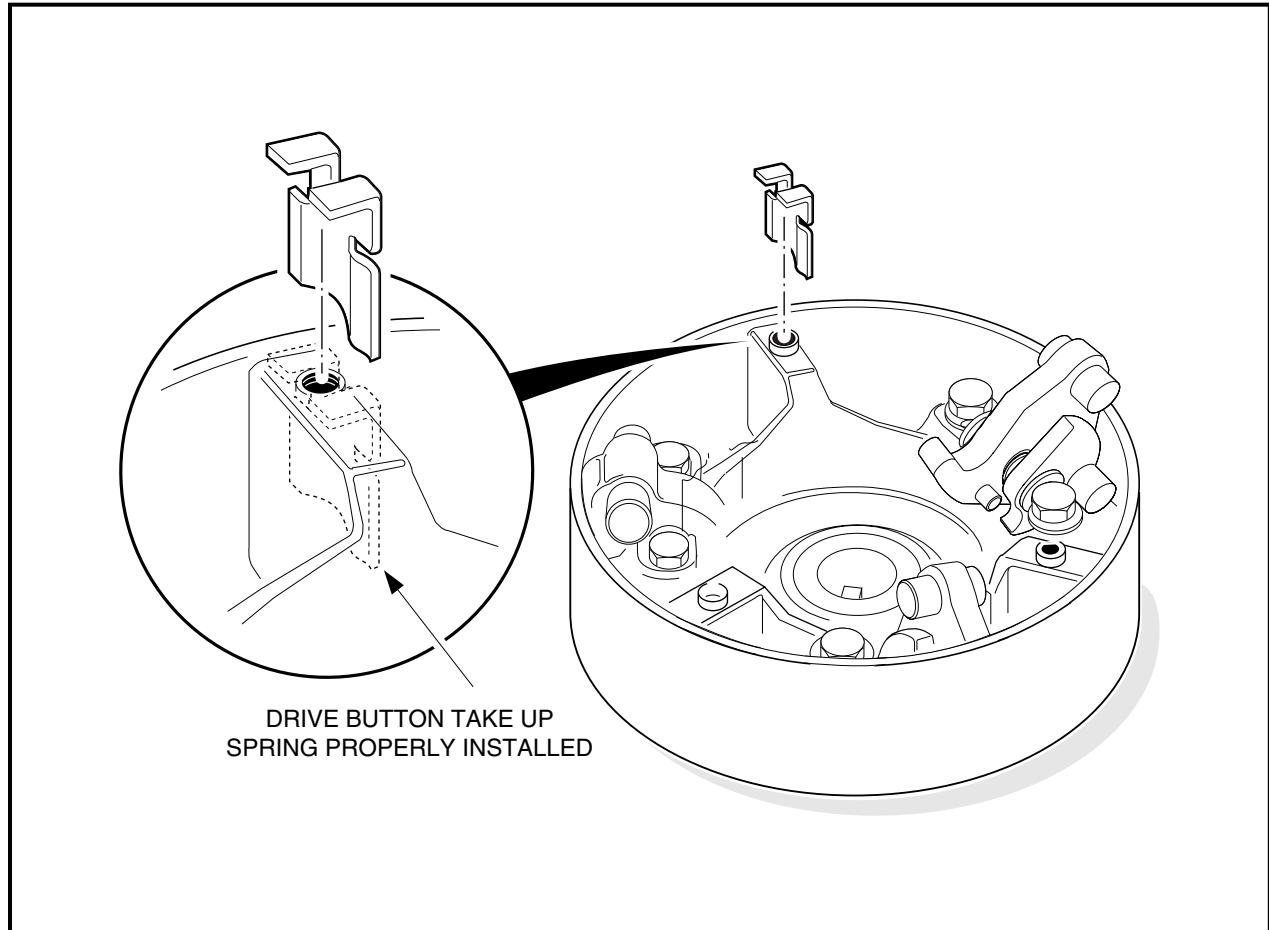

Figure 17-15 Correct Orientation of Drive Button Take-up Spring
- 13.1. Install springs on right side of the three button mounting posts (when looking into the interior of the clutch drive hub, and with a rib at a twelve o'clock position) as shown (**Figure 17-15, Page 17-12**).